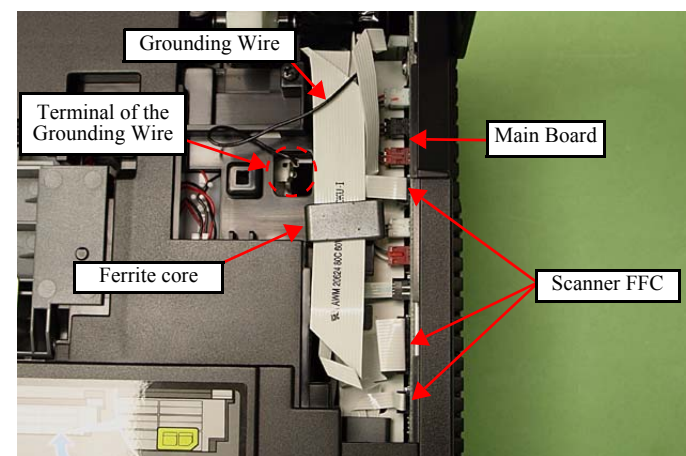

Figure 4-204. Removing the Scanner Unit (1)
- Make sure to insert the terminal of the Grounding wire to the fixing rib of the frame. (See Fig. 4-204.)